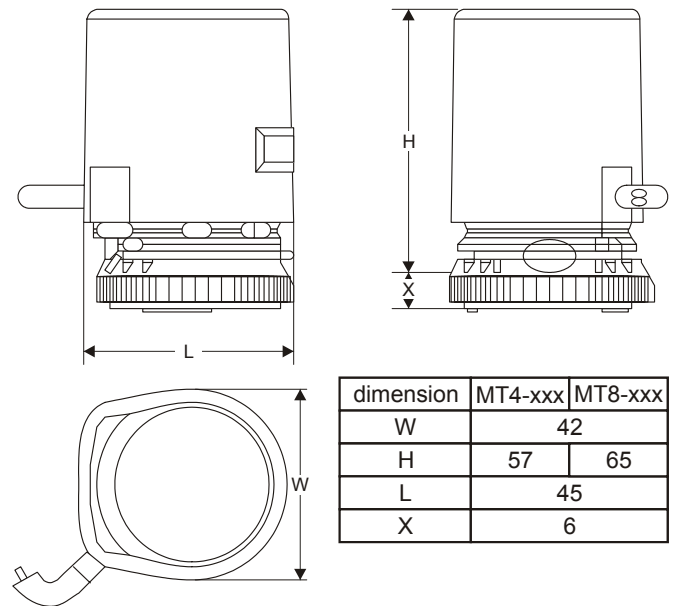

**Fig. 6. Valve action**
**NOTE:** Fig. 6 is a schematic diagram showing typical valve action. Actual function can vary depending upon the individual type of valve.